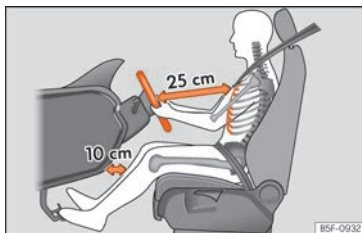

Fig. 3 The correct distance between the driver and the steering wheel must be at least 25 cm [10 inches].
- Move the steering wheel so it is at least 25 cm (10 inches) away from the sternum »» Fig. 3 and you can hold it with both hands on both sides, on the outer part, with your arms slightly bent.
- Move the seat in such a way that you can step on the pedals with your knees slightly bent and with a distance between the knees and the dashboard of at least 10 cm (4 inches) »» Fig. 3.